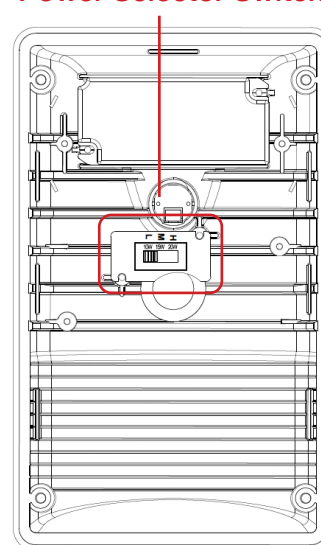

Fig. 8
3. Select your desired power and colour temperature settings with the switch and secure the luminaire with the 4 screws (Fig. 8)